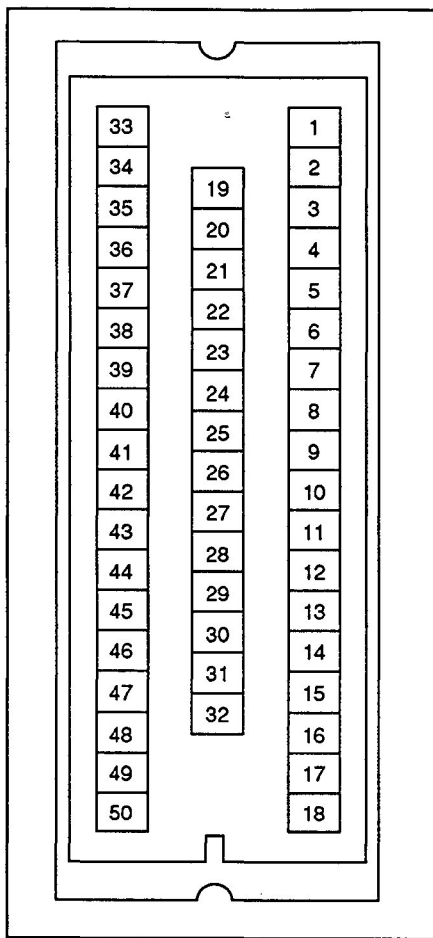

Figure 3-15. 2CN Connector Pin Configuration.
4. Wire control and signal wiring to the appropriate Honda connector on the face of the controller hinged panel according to connection diagram Figure 3-14. Refer to Figures 3-15 and 3-16 to identify connector pin locations and Tables 3-2 and 3-3 for connector pin functions.